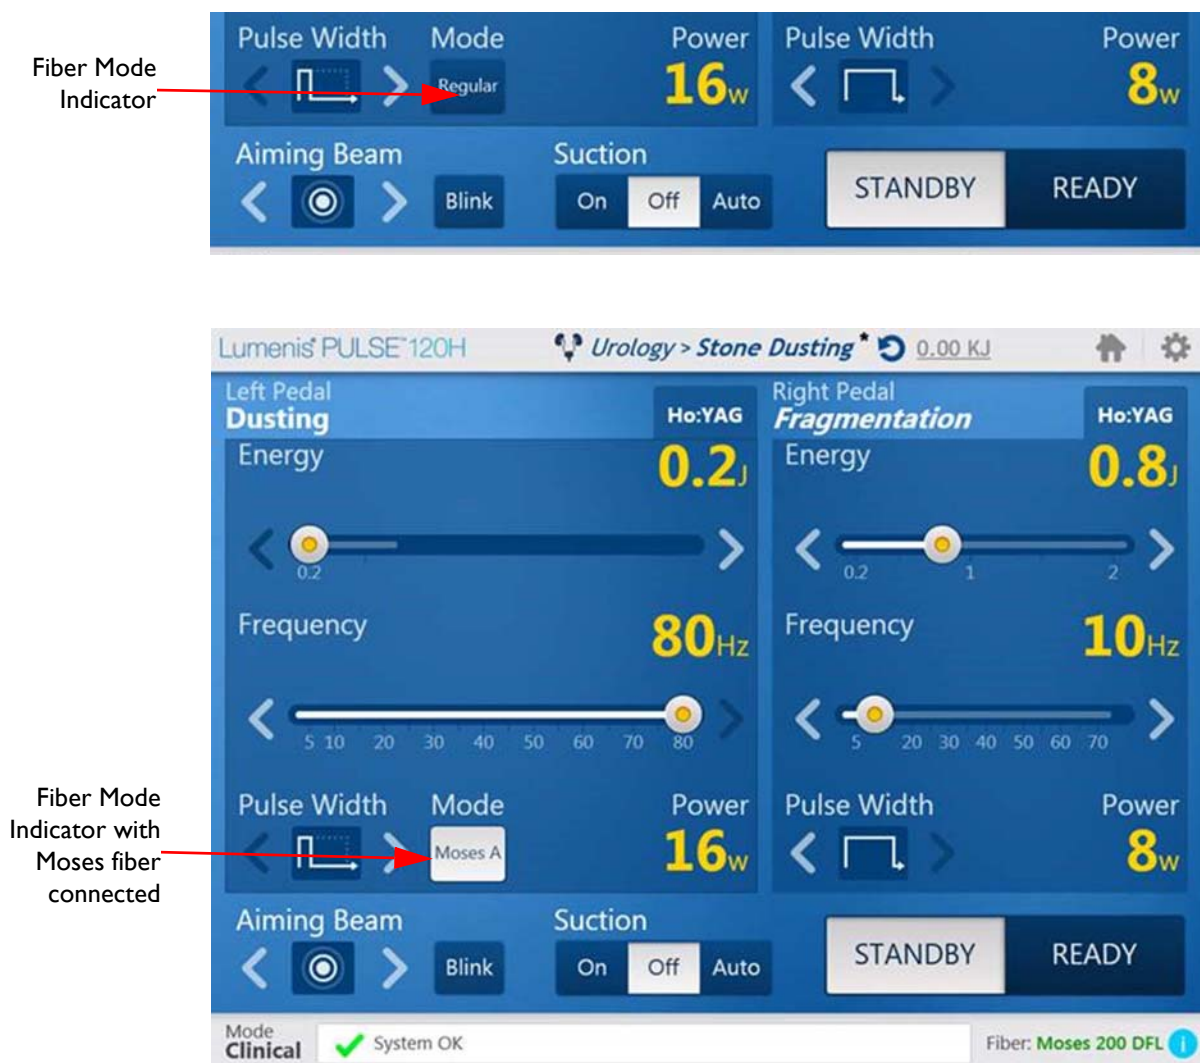

Figure 29: Moses “A” mode control
- To use **Moses** mode, ensure that a Moses fiber is connected to the system and press the **Mode** button (see Figure 29).